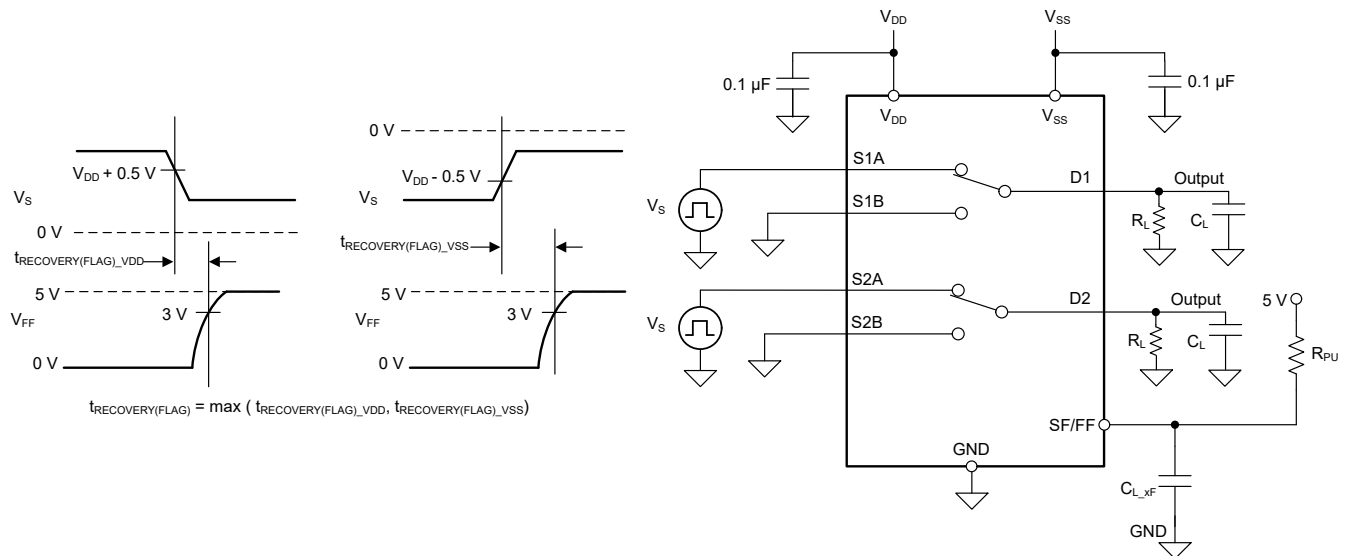

Figure 7-12. Fault Flag Recovery Time Measurement Setup
Fault flag recovery time ($t_{RECOVERY(FLAG)}$) measures the delay between the source voltage falling from overvoltage condition to below fault supply voltage (V_{DD} or V_{SS}) plus 0.5 V and the general fault flag (FF) pin to rise above 3 V with 5 V external pull-up. Figure 7-12 shows the setup used to measure $t_{RECOVERY(FLAG)}$.